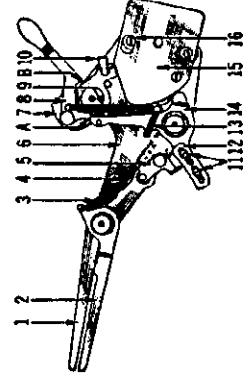

Figure 7
1. Switch Fails to Trip. Bend the lug B (Figure 7) so that there will be less contact at point A.
2. Switch Trips Before the Completion of a Record. Bend the lug back, so that there will be more contact at point A. (Figure 7.)
- b. Increase the tension of the spring 9 (Figure 7) by cutting off one or more of the coils and then replacing the end of the spring over the lug.